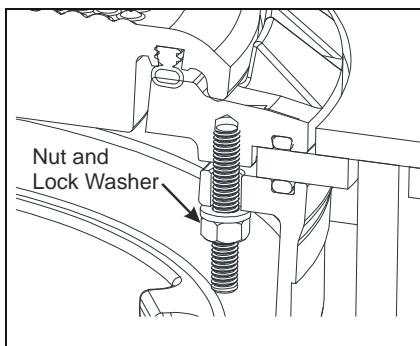

Figure 6
16. Install nut and lock washer onto studded mounting ring. Tighten the mounting ring retaining bolts until the spill container o-rings make contact with the multi-port cover. Then, in a crossing pattern, torque the bolts down between 15 to 20 ft.-lbs. 6 Point Ratcheting box wrench is recommended. (See Figure 6.)